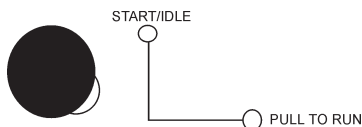

Figure 21. Engine Throttle Lever (LOW)
- Check the engine speed throttle lever is pushed in (low speed) (Figure 21).